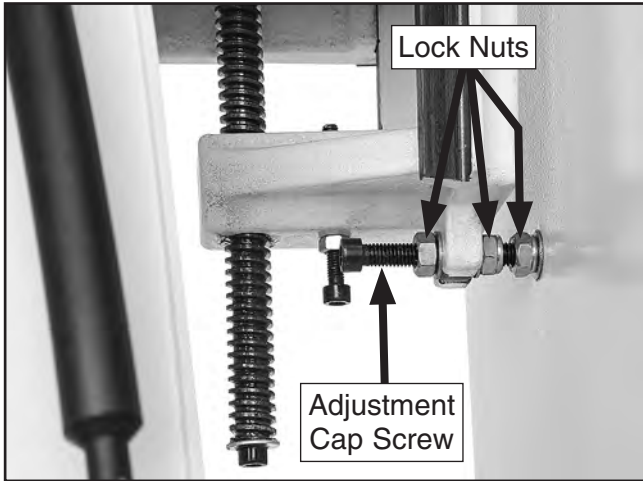

Figure 43. Adjustments for table-motor parallelism.
8. Loosen (3) lock nuts on adjustment cap screw (see **Figure 43**).